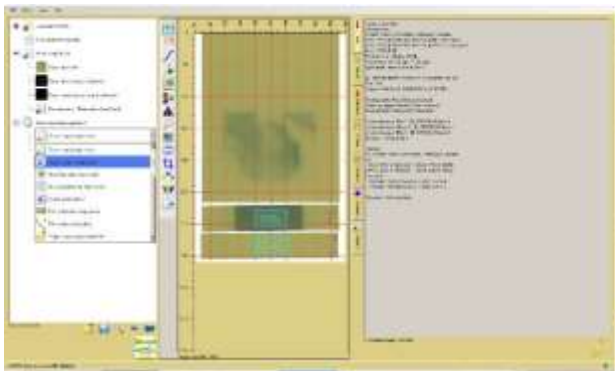
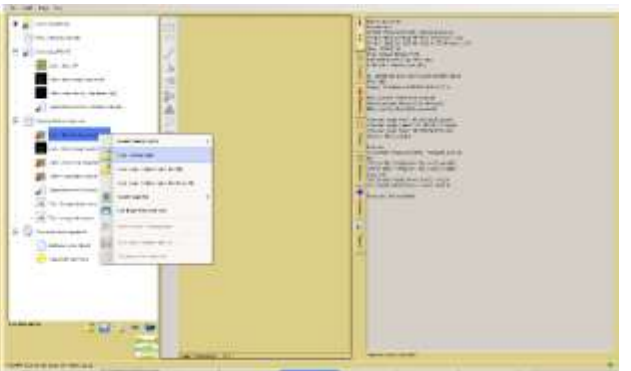

Figure 8A
Figure 8B
13. Compare the measurements with the plan. Add a New Case Object – “Dose to Plan Comparison” (Figure 8A). Then right click “Data Treatment Plan”, navigate to the right folder and open the treatment plan (Figure 8B). Now click on the Image Comparer tool. The treatment plan and dose map appear in the window.